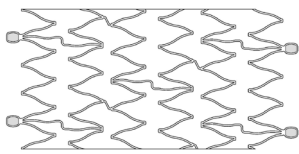

Figure 2 – Nitinol Stent
- c) Enlevez le verrou de transport (Figure 2).
- An implantable self-expanding nickel-titanium alloy (nitinol) stent, as shown in Figure 2. The stent is flexible, a fine tubular mesh prosthesis, with a helical design, which achieves its unconstrained diameter upon deployment into the target vessel. Upon deployment, the stent imparts an outward radial force on the luminal surface of the vessel to establish patency.